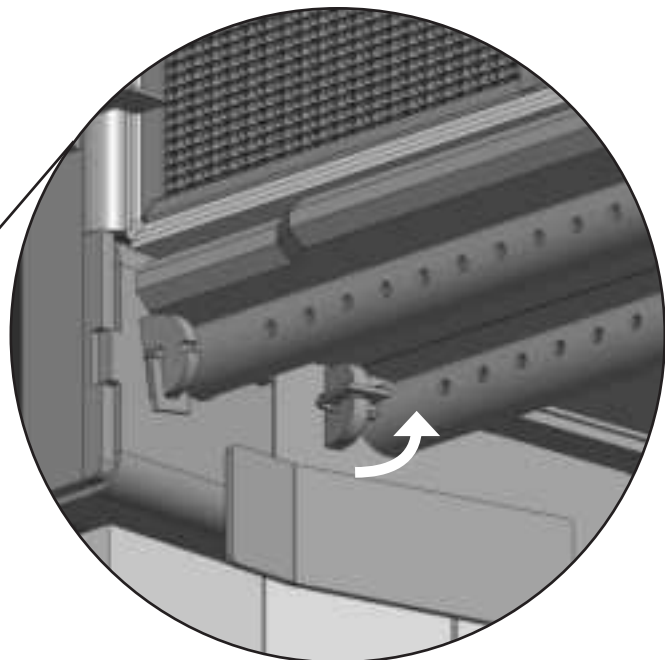

Figure 3.11a.
2. Remove the rear air tube retainer clip on the left side of the rear tube by rotating counter clockwise to horizontal or 3 o'clock position and pull towards the front of the product. Set member in a safe place. See fig 3.11a and b